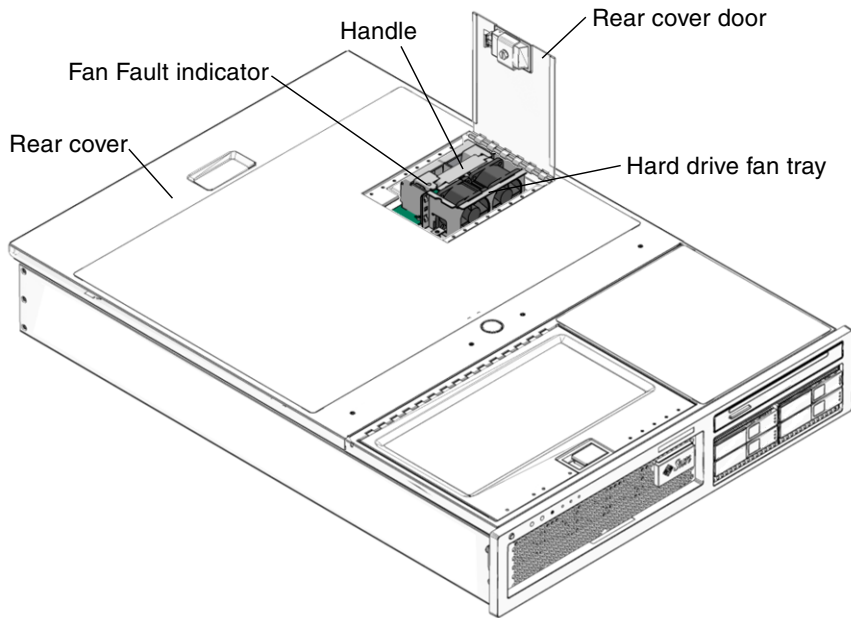

FIGURE 2-5 Hard Drive Fan Tray – Sun Fire V245 Server
1. Gain access to the top of the server where the rear cover door for the fan tray is located (FIGURE 2-5).
1. **With the rear cover door open, install the replacement fan tray into the server (FIGURE 2-5).**